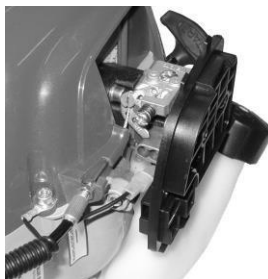

Fig. 6
**Connection of the gas control acceleration cable for models with rigid shaft:** (Fig. 6). There is a gas control cable that leaves the accelerator handle. This cable has a threaded terminal at its end, and there are two nuts screwed into the terminal. Take the gas control cable and insert one end into the swivel for the control of the carburetor butterfly valve. Then position the threaded terminal into the respective housing in the nylon cylinder cover, making sure to pass the steel cable beneath the respective track. Then fasten the threaded terminal to the cylinder cover by working on the nuts. Then adjust the threaded terminal in order to eliminate all slack between the cable and the sheath in order to ensure correct and progressive acceleration. This threaded terminal has been built to CE standards and serves to prevent undesired acceleration of the machine if the control is ever accidentally contacted. Then connect the ground cable's eyelet terminal to one of the four fixing screws on the cylinder cover that supports the clutch case and connect the ground cable's female faston to the male faston coming from the coil. In models equipped with handle-bars, pass the gas control cable unit inside the respective lateral housings in the cross, and the two cable guides positioned on the rod in order to make sure that the gas control unit is fitted as closely to the machine as possible.